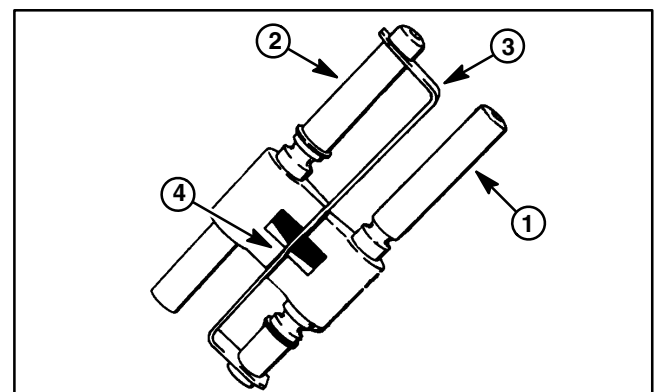

Figure 16
1. Slide shifter stop (item 29) from shift rods.
2. Carefully slide shifter forks from shift rods. Locate and retrieve spring (item 9) and detent ball (item 10) from hole in fork.
8. When the shifter forks are properly assembled to the shifter rods and positioned in neutral, the ends of the notches in the forks should be aligned (Fig. 16).